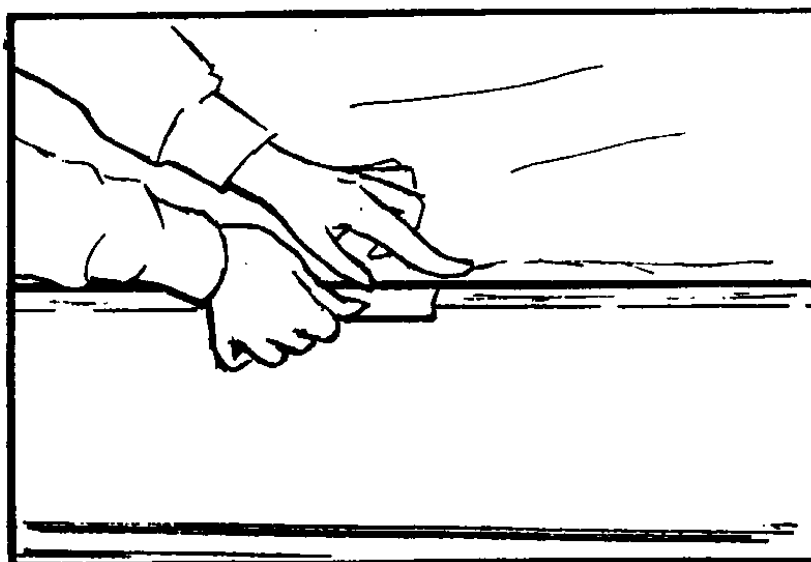

Figure 10
15. Pull canopy support to full verticle position and tighten guy ropes. Clamp tent to rail using retainers shown in Figure 10 beginning at left rear corner by rotating the tent tubular seal 90° and inserting into continuous slot located on the body side rail directly above the tarp-tent locks. Clamp tent along both sides and rear.